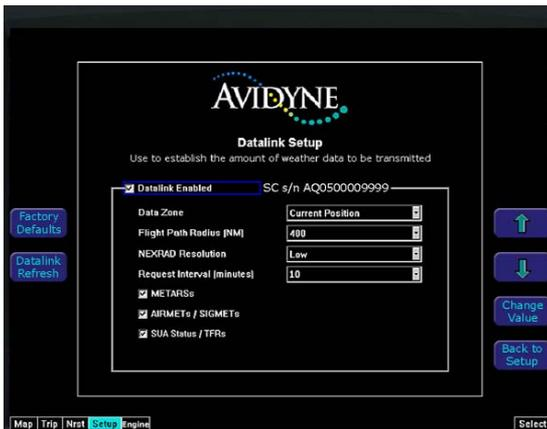

Figure 11 - Datalink Setup Page
You will need to log on to [www.myavidyne.com](http://www.myavidyne.com) and follow the simple account setup instructions in order to establish an Avidyne datalink account. Be sure to have your datalink subscriber communicator (SC) serial number handy. You will need it to open your account. You can view your SC s/n on the EX5000 Datalink Setup Page (Figure 11). Once your account is activated, you may immediately begin enjoying the advantages of the EX5000's satellite-based datalink capability. In addition, your [www.myavidyne.com](http://www.myavidyne.com) datalink account provides you with access to your billing and usage statements, as well as providing pre-flight weather links and planning tools. You can set your datalink user preferences online prior to your flight, and they will be downlinked to your EX5000 via satellite the next time you fly.